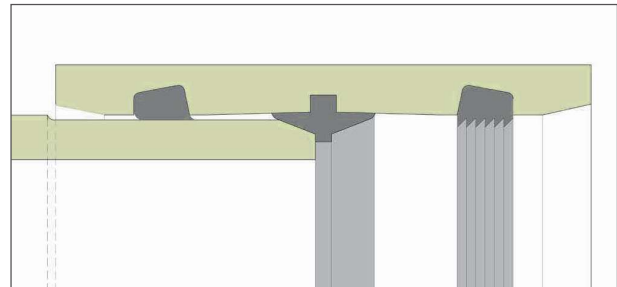

Fig. 24: FPCA coupling
5.1.3. PRESSURE COUPLING ANGULAR /FPC-A (FIG. 24)